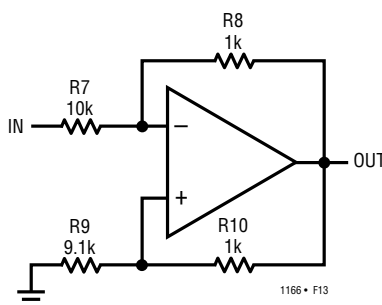

Figure 13. Op Amp in Suspended-Supply Operation
common mode voltage to its output. The following applications utilize amplifiers operating in suspended-supply operation (Figure 13). See “Linear Technology Magazine” Volume IV Number 2 for a discussion of suspended supplies. The gain setting resistors used in suspended-supply operation must be tight tolerance or the gain will be wrong. For example: with 1% resistors the gain can be as far off as 75%, but with 0.1% resistors that error is cut to less than 5%. Using the values shown in Figure 13, the formula for computing the gain is:
** SEE POWER SUPPLY OF FIGURE 13